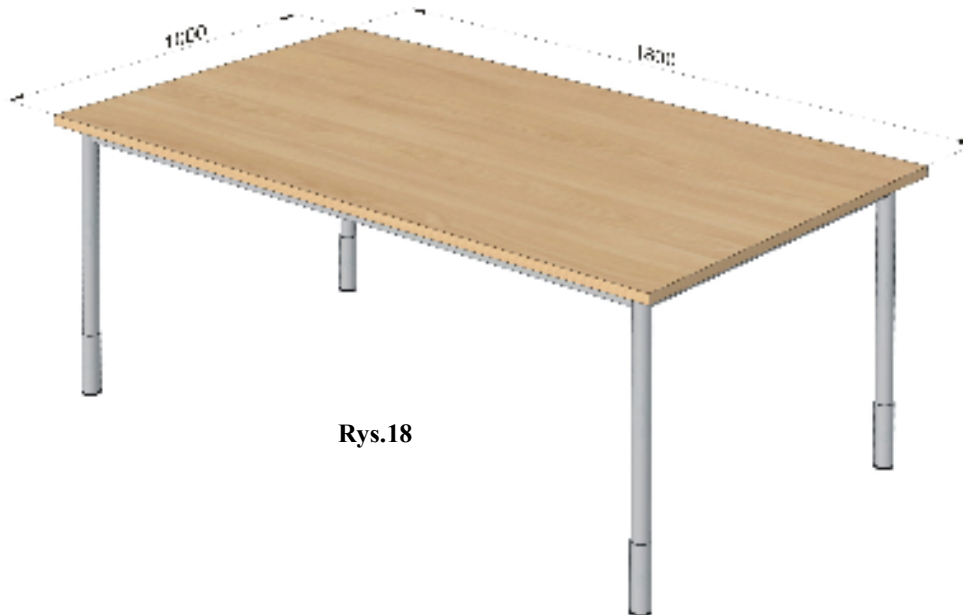

Rys.17
**6.0.0. STÓŁ LABORATORYJNY II (rys.17)**